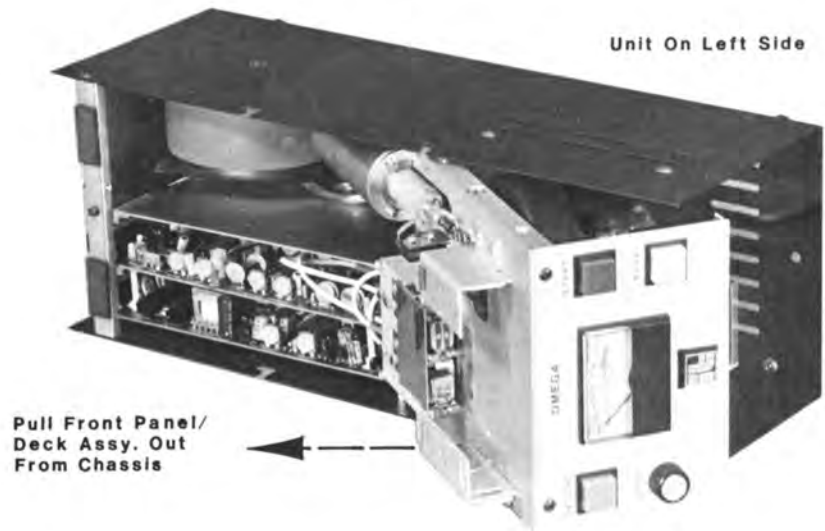

Fig. 5-7
D. The front panel and deck assembly may now be swung out and away from the chassis for access to switches and connectors. Figure 5-7. Be careful not to disconnect the motor from the controller PCB.